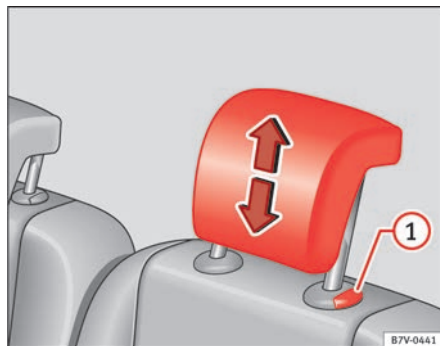

Fig. 87 Removing the rear head restraint.
- Pull the head restraint out of the fitting without releasing the button ⇒ fig. 87 .